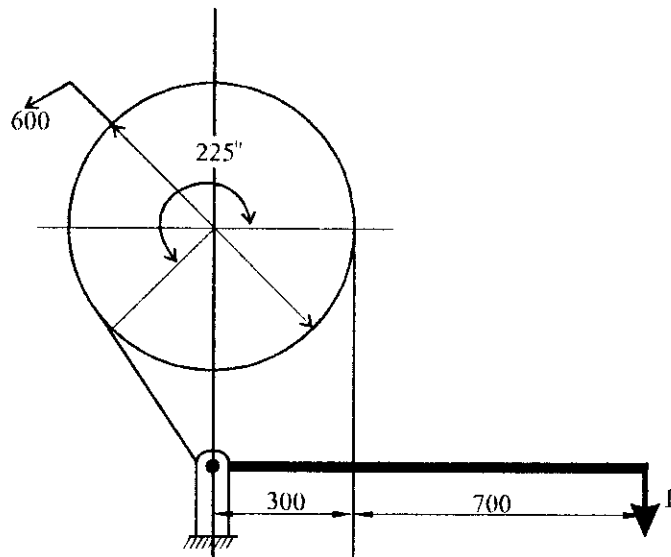

Fig.2
- b) A simple band brake shown in figure.2 is to be designed to stop the rotation of a shaft transmitting a power of 45 kW at rated speed of 500 rpm. Selecting suitable materials determine